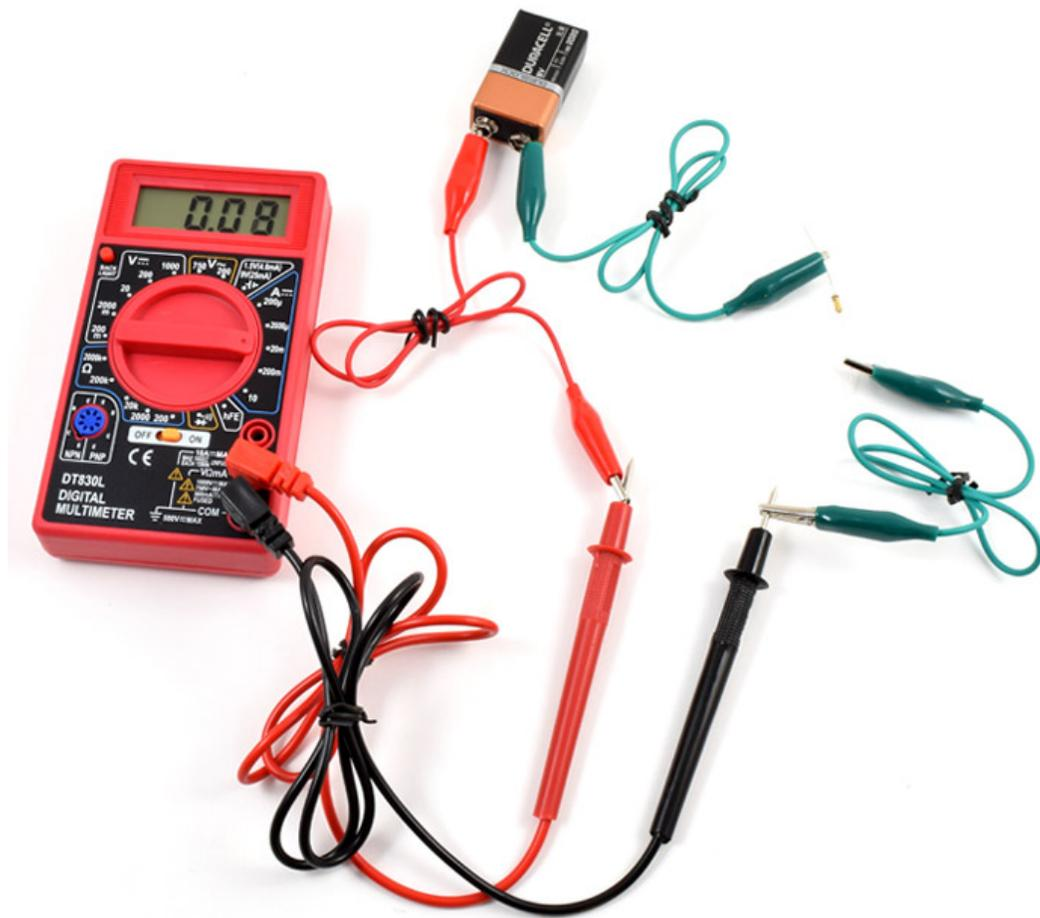

Figure 13. Setup for making sure the multimeter has a working fuse.
Your Veggie Power kit should contain a 1,000 ohm, or 1 kilo-ohm (k Ω) resistor; a small, tan-colored cylindrical piece with two metal wires sticking out of it. You can use this resistor to test your multimeter as described here and shown in Figure 13.
- b. If this does not work, and you are confident that you set up the test correctly as shown in Figure 13, then your multimeter might be defective or have a blown fuse. Please contact service@homesciencetools.com (mailto:service@homesciencetools.com) for assistance.